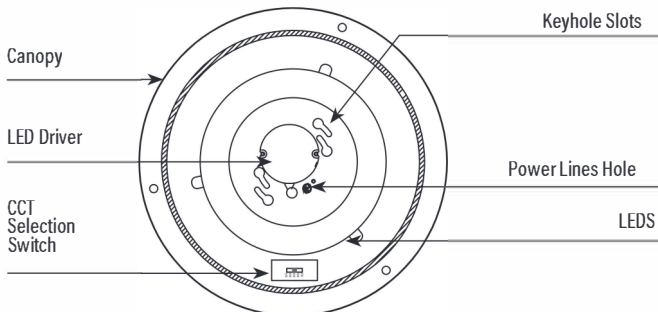

Fig. 2
- Item#: 84294 - install diffuser, replace metal ring and tighten the decorative nuts onto the decorative bars. (Fig. 2)